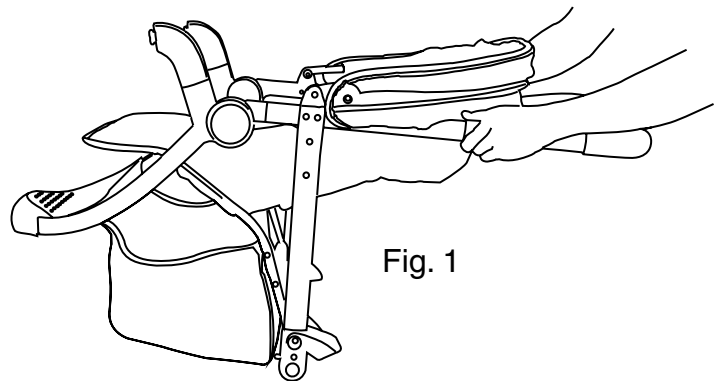

Fig. 1
1. Lean the stroller backwards so the rear axle frame is resting on a flat surface and the front wheel forks are pointing upward (Fig. 1).